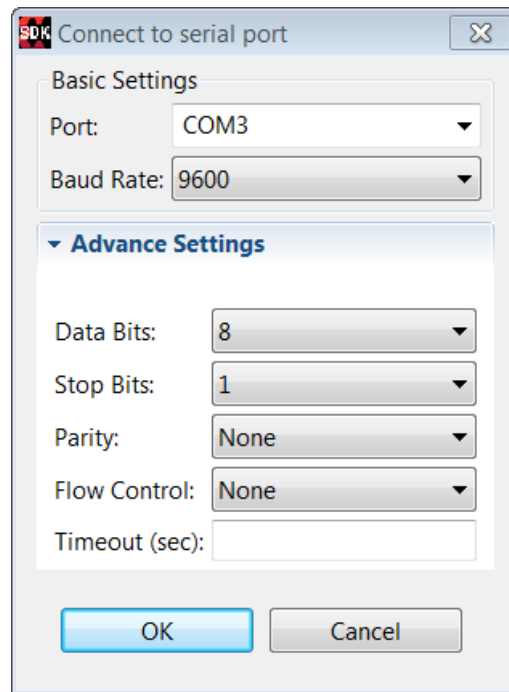

Figure 118: Terminal Settings
7. Use the settings shown in Figure 118 for the KC705 board and click **OK**.